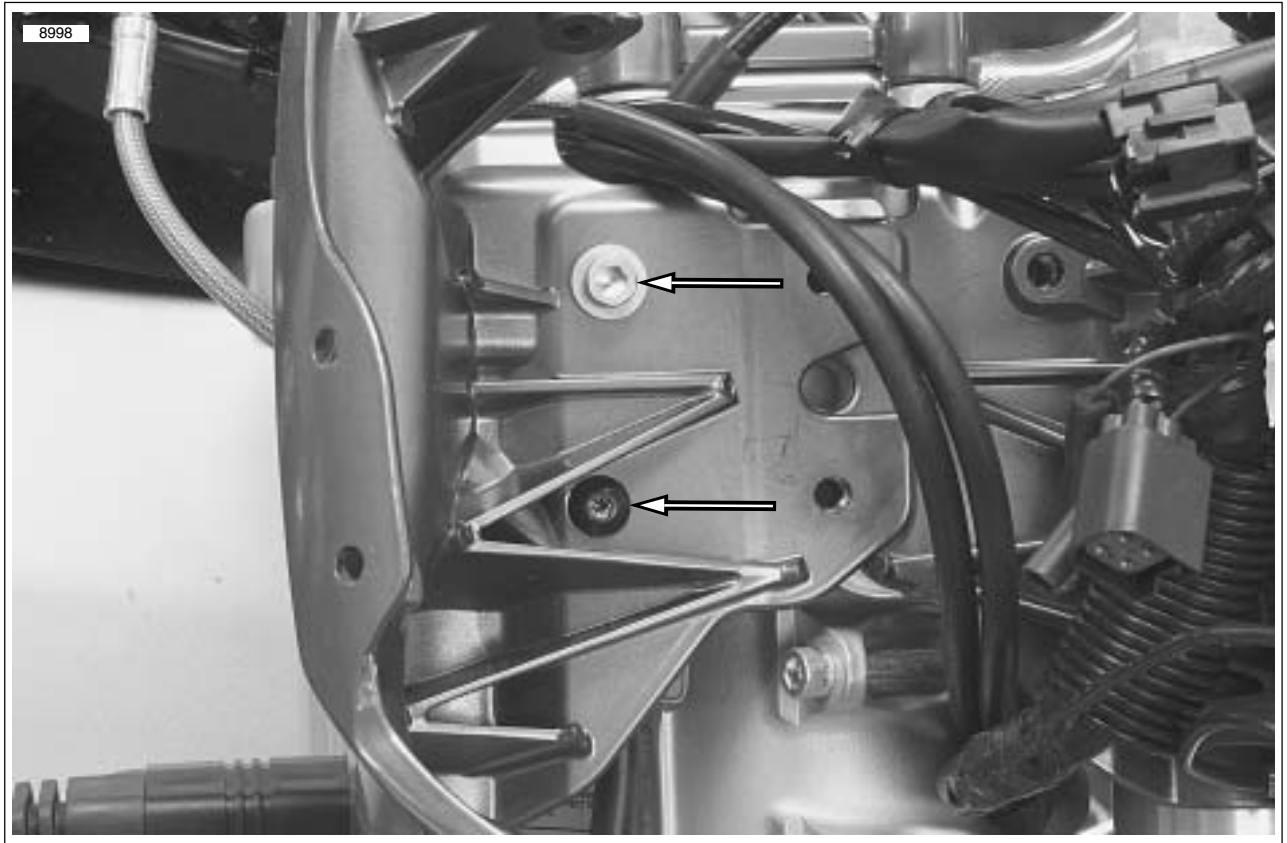

Figure 2-98. Right Front Module Fastener and Brake Line P-Clamp Fastener
See Figure 2-98. Once the ignition switch has been removed there will be two remaining fasteners.
7. See Figure 2-98. Remove fastener attaching p-clamp to rear side of right front module.
8. See Figure 2-98. Loosen but do not remove final fastener securing the right front module to upper triple clamp.
10. See Figure 2-98. Remove the final fastener and the right front module.
1. See Figure 2-98. Install right front module leaving single fastener loose.